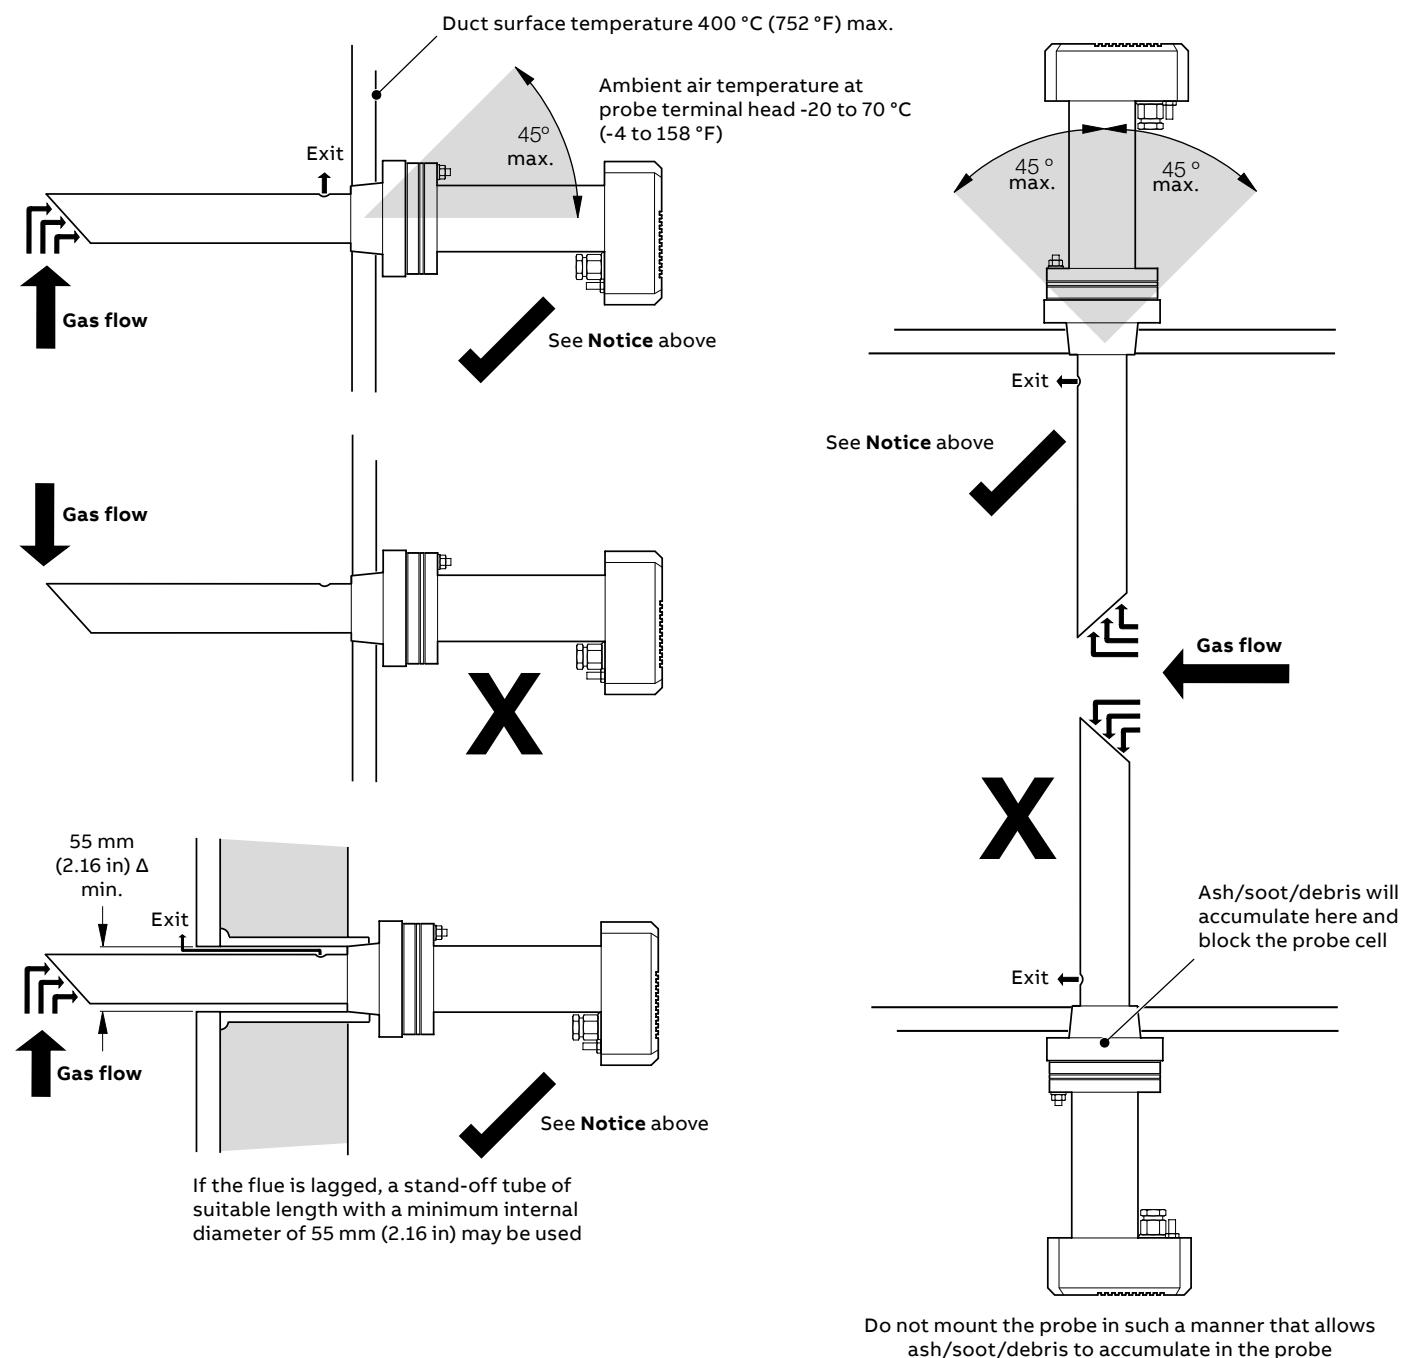

Figure 7 General mounting requirements
- 1 Cut a 75 mm (2.95 in) minimum diameter hole (A) in the flue wall.
- 2 Weld a 2 in NPT or 2 in BSP female threaded boss (B) (not supplied) into place, concentric with the hole in the flue.
- 3 Apply high temperature jointing compound to the threads (C) of the probe mount adapter and screw the adapter into the boss.
- 4 Locate a gasket (D) over the studs on the adapter – see **Notes**, left.
- 5 Insert the probe intake tube (E) through the adapter, ensuring that the open side of the intake tube tip faces into the gas flow – see Figure 7, page 10 and **Warning** (left).
- 6 Align the bolt holes (F) in the probe intake tube flange with the studs on the adapter ensuring that the open side of the intake tube tip continues to face into the gas flow.
- 1 Cut a 75 mm (2.95 in) minimum diameter hole (A) in the flue wall (B).
- 2 Weld a mounting plate AZ1000098 (C) into place, concentric with the hole in the flue.
- 3 Locate a gasket (D) over the studs on the adapter – see **Note**, left.
- 4 Insert the probe intake tube (E) through the adapter, ensuring that the open side of the intake tube tip faces into the gas flow – see Figure 7, page 10 and **Warning** (left).
- 5 Align the bolt holes (F) in the probe intake tube flange with the studs on the adapter ensuring that the open side of the intake tube tip continues to face into the gas flow.
- 1 Fit a suitable mating flange (customer-supplied) (A) to the flue wall.
- 2 Secure flange (B) to the flue-mounted mating flange (A) using suitable fixings (C) (not-supplied).
- 3 Locate a gasket (D) over the studs on flanged boss (B) – see **Notes**, left.